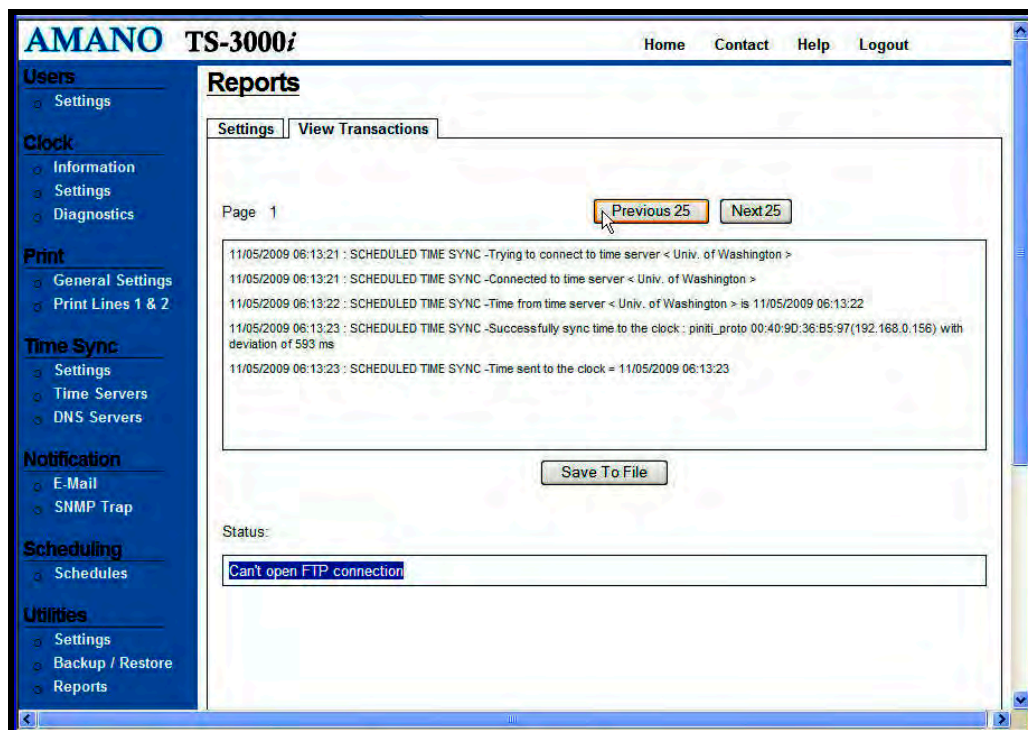

Figure 4-28: View Transactions Example
Step 6. Click on the **View Transactions** tab to view the transactions based upon the previously defined and saved settings (see *Figure 4-28*). **All failed synchronizations will appear in red when viewed in the browser.** See the following for a transaction view examples: